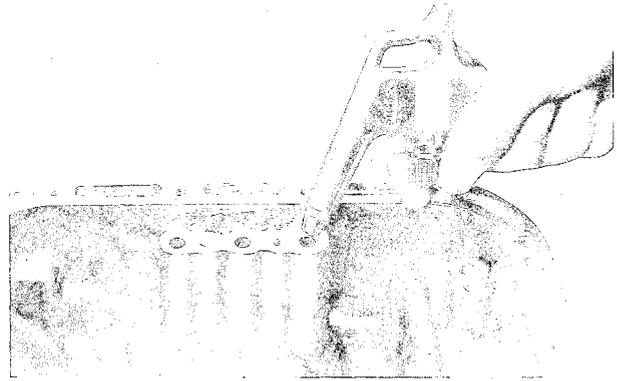

Fig. 7B-34 Blowing out piston
3. Remove the low and reverse brake piston from the case by blowing compressed air into the port located at the rear of the case, as shown in Fig. 7B-34.